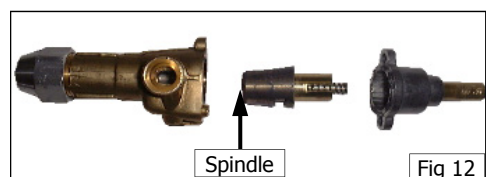

Fig 12
- g. Apply a suitable high temperature gas cock grease or lubricant such as ROCOL - A.S.P (Anti scuffing paste)/ Dry Moly Paste to the outside of spindle. (See Fig 12).